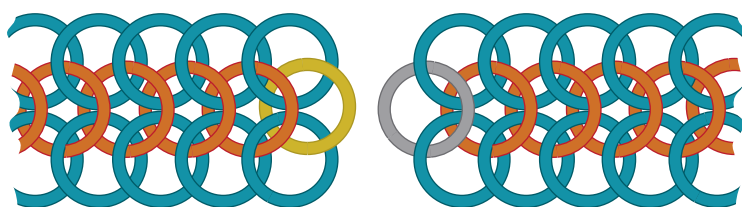

FIG. 1
2. Bring both ends around to meet, but do not twist the band (FIG. 1).